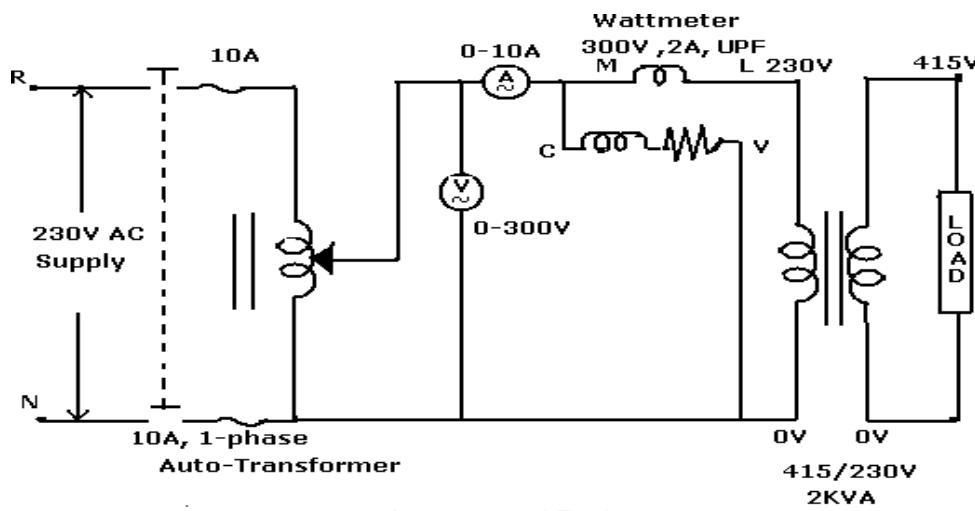

Fig.1.3: Load Test
- * Connect the circuit diagram such that the supply on LV side and load on HV side as shown in the fig. 1.3.